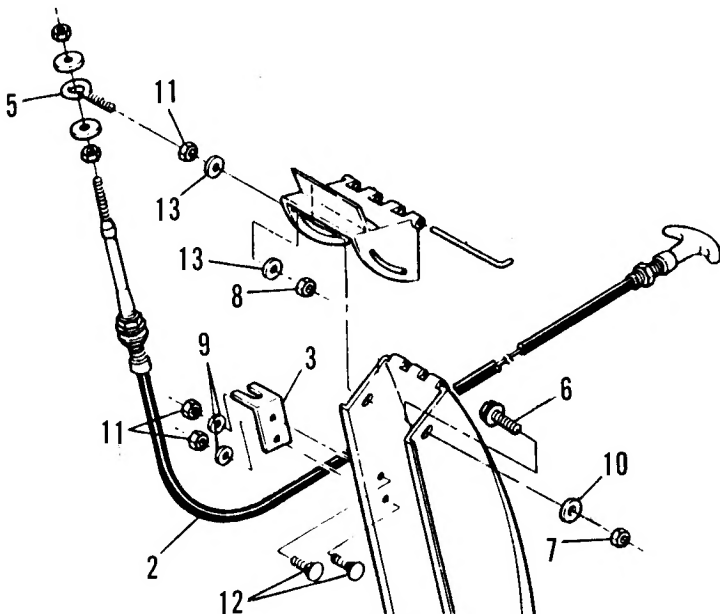

FIGURE 2
STEP 4: Install cable mount (item 3) using two 1/4"x1/2" carriage bolts on inside of chute and secure with two 1/4" internal tooth lock washers and 1/4" hex nuts. See figure 2. Remove wing nut, washer and carriage bolt from left side of deflector and discard. Replace with 5/16x3/4" capscrew, washer and nut found in kit. Position these items the same as the right side and don't overtighten. Deflector has to be free to move up and down.